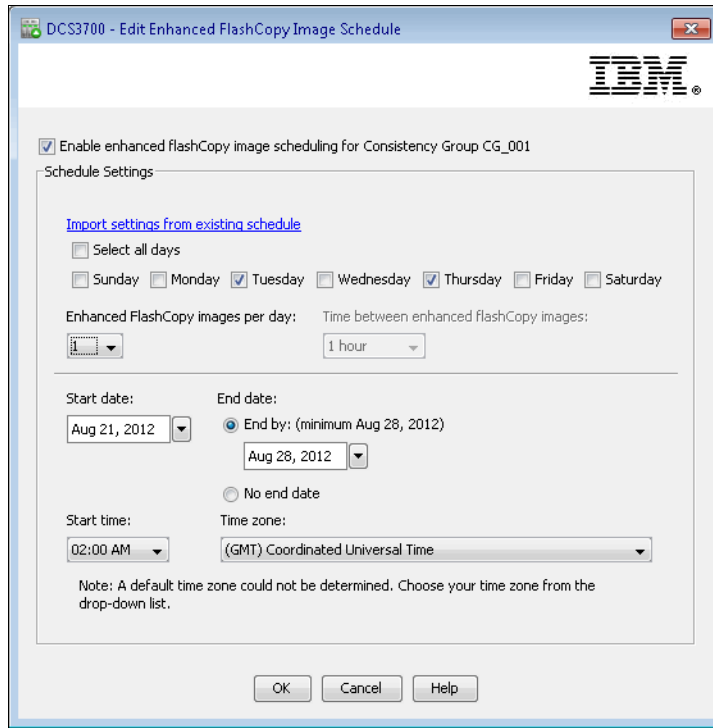

Figure 8-68 Edit Enhanced FlashCopy Image Schedule
- **Create/Schedule:** The system schedules a time of copy action on the associated member logical drives, as shown in Figure 8-68.